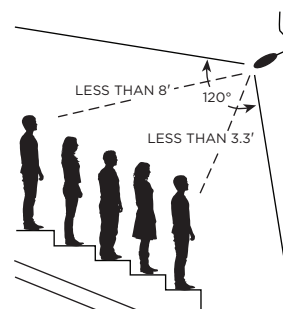

Figure 5
- Use the microphone's 120° pickup angle to capture the desired area by positioning it in front of the closest sound source, above the most rear source, and aimed between them (Figure 5).